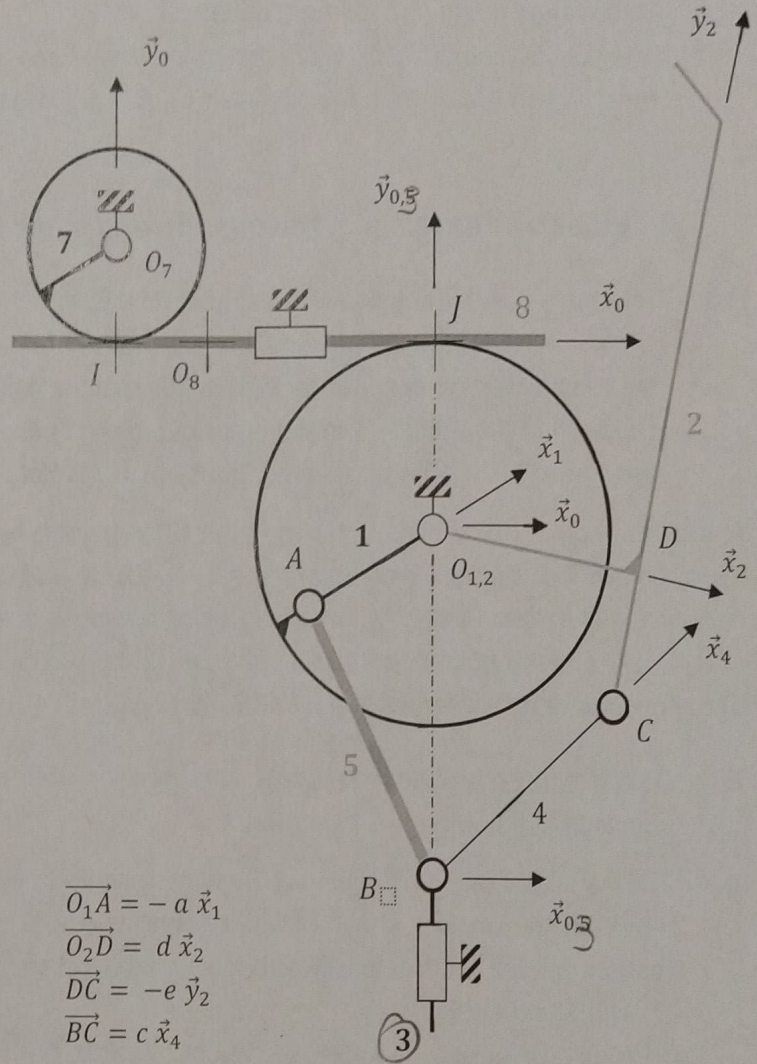

Figure 4 : Kinematic model of the plier
**Description :** (see Figure 4)